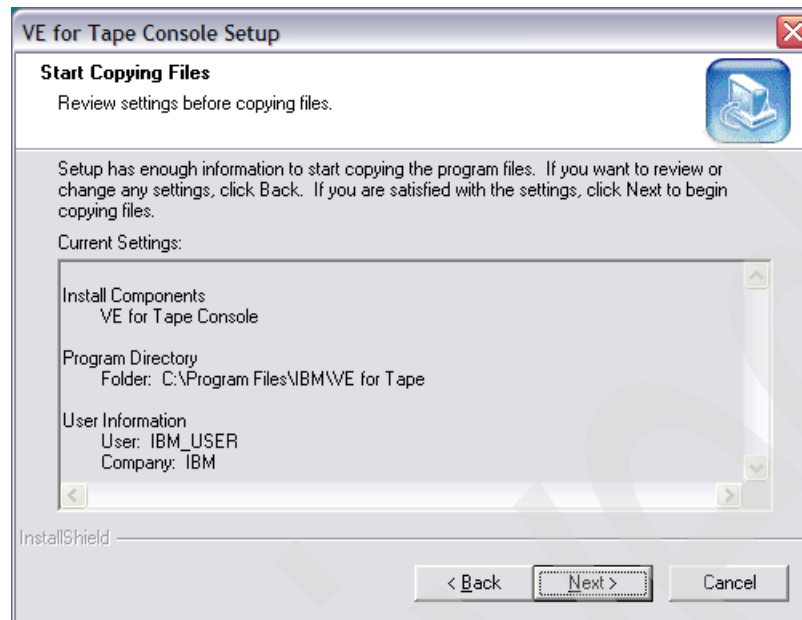

Figure 6-15 TS7530 VE for Tape Console install start copying files
11. Review the settings. Click **Next** on the panel shown in Figure 6-15 to start copying the files.